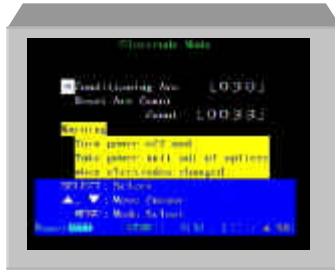

Figure 32. Electrode Mode Menu
1. From the ELECTRODE MENU shown in Figure 32, choose RESET ARC COUNT.